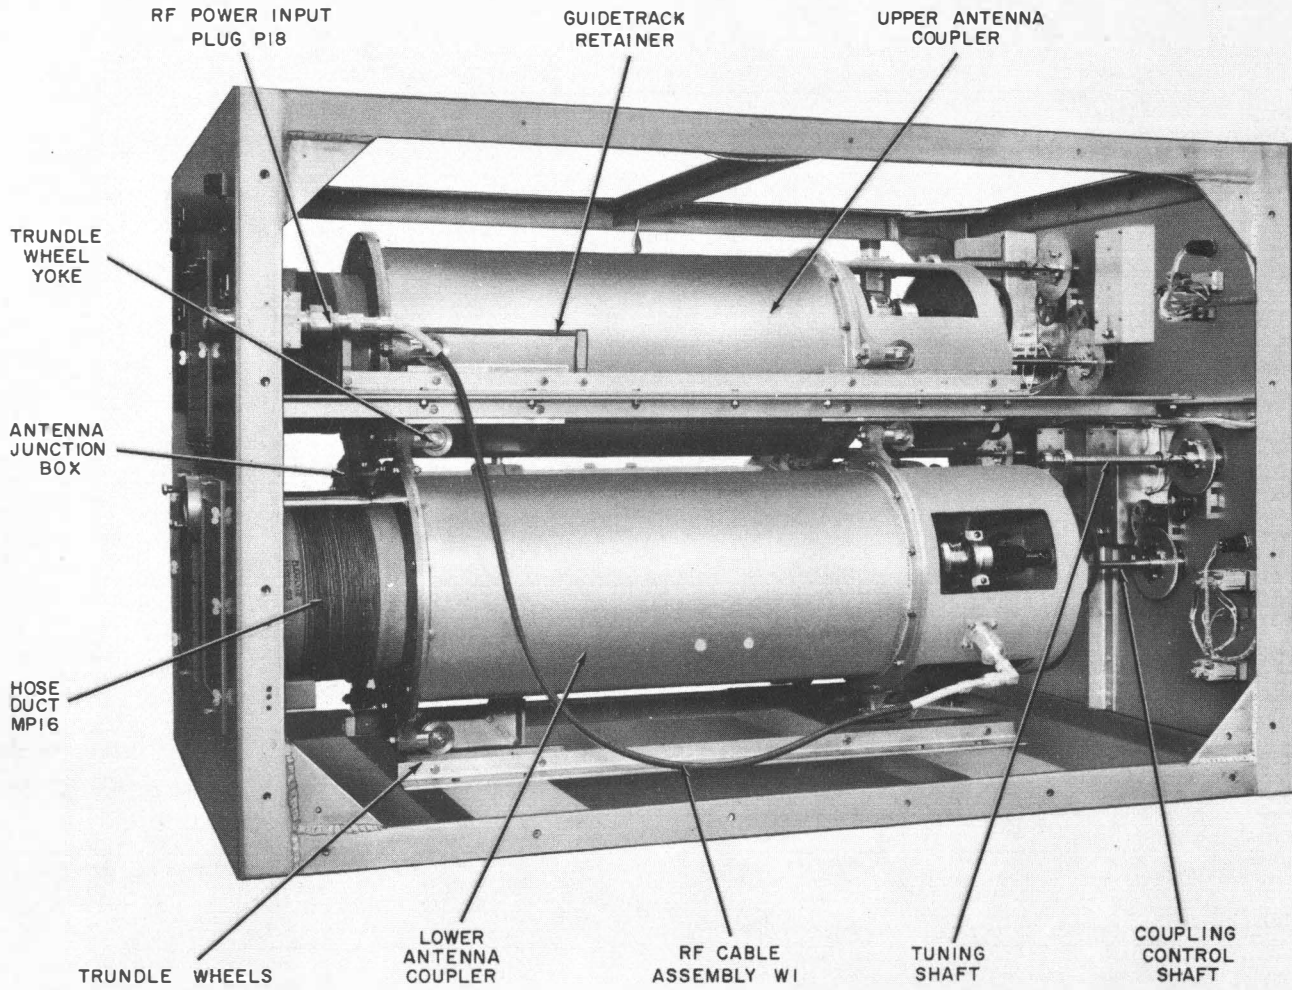

Figure 6-10. Electrical Equipment Cabinet CY-3409/FRA-49(V),
c. LOWER ANTENNA COUPLERS. - The procedure for removing the lower antenna couplers (see figure 6-10) is as follows:
- (1) Disconnect both shafts and remove all cables.
- (2) Disconnect the r-f pick-up loop from the antenna junction box.
- (3) Loosen the bolts which hold the yokes of the upper trundle wheels.
- (4) Incline the antenna couplers towards the outside of the electrical equipment cabinet and lift them out.
d. UPPER ANTENNA COUPLER. - The procedure for removing the upper antenna coupler (see figure 6-10) is as follows:
- (3) Unfasten the bolts holding one end of each guide-track retainer and swing the two retainers up so as to disengage both trundle wheels.
Removal of center frame member will aid in removal of the upper antenna coupler (see figure 6-10).